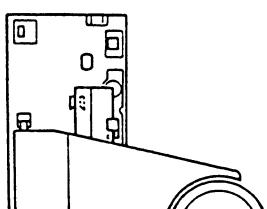

Fig. 10-8
3. Insert the slide base so that it fits into the two hard resin fittings at the rear of the loading base (see Fig. 10-8).